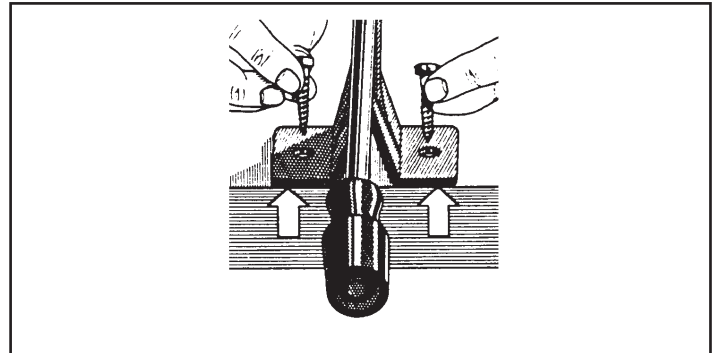

Figure 17. Rivet Spinner Mounting
1. Mount the rivet spinner flush with the side or front of a flat, clean work surface (Figure 17).